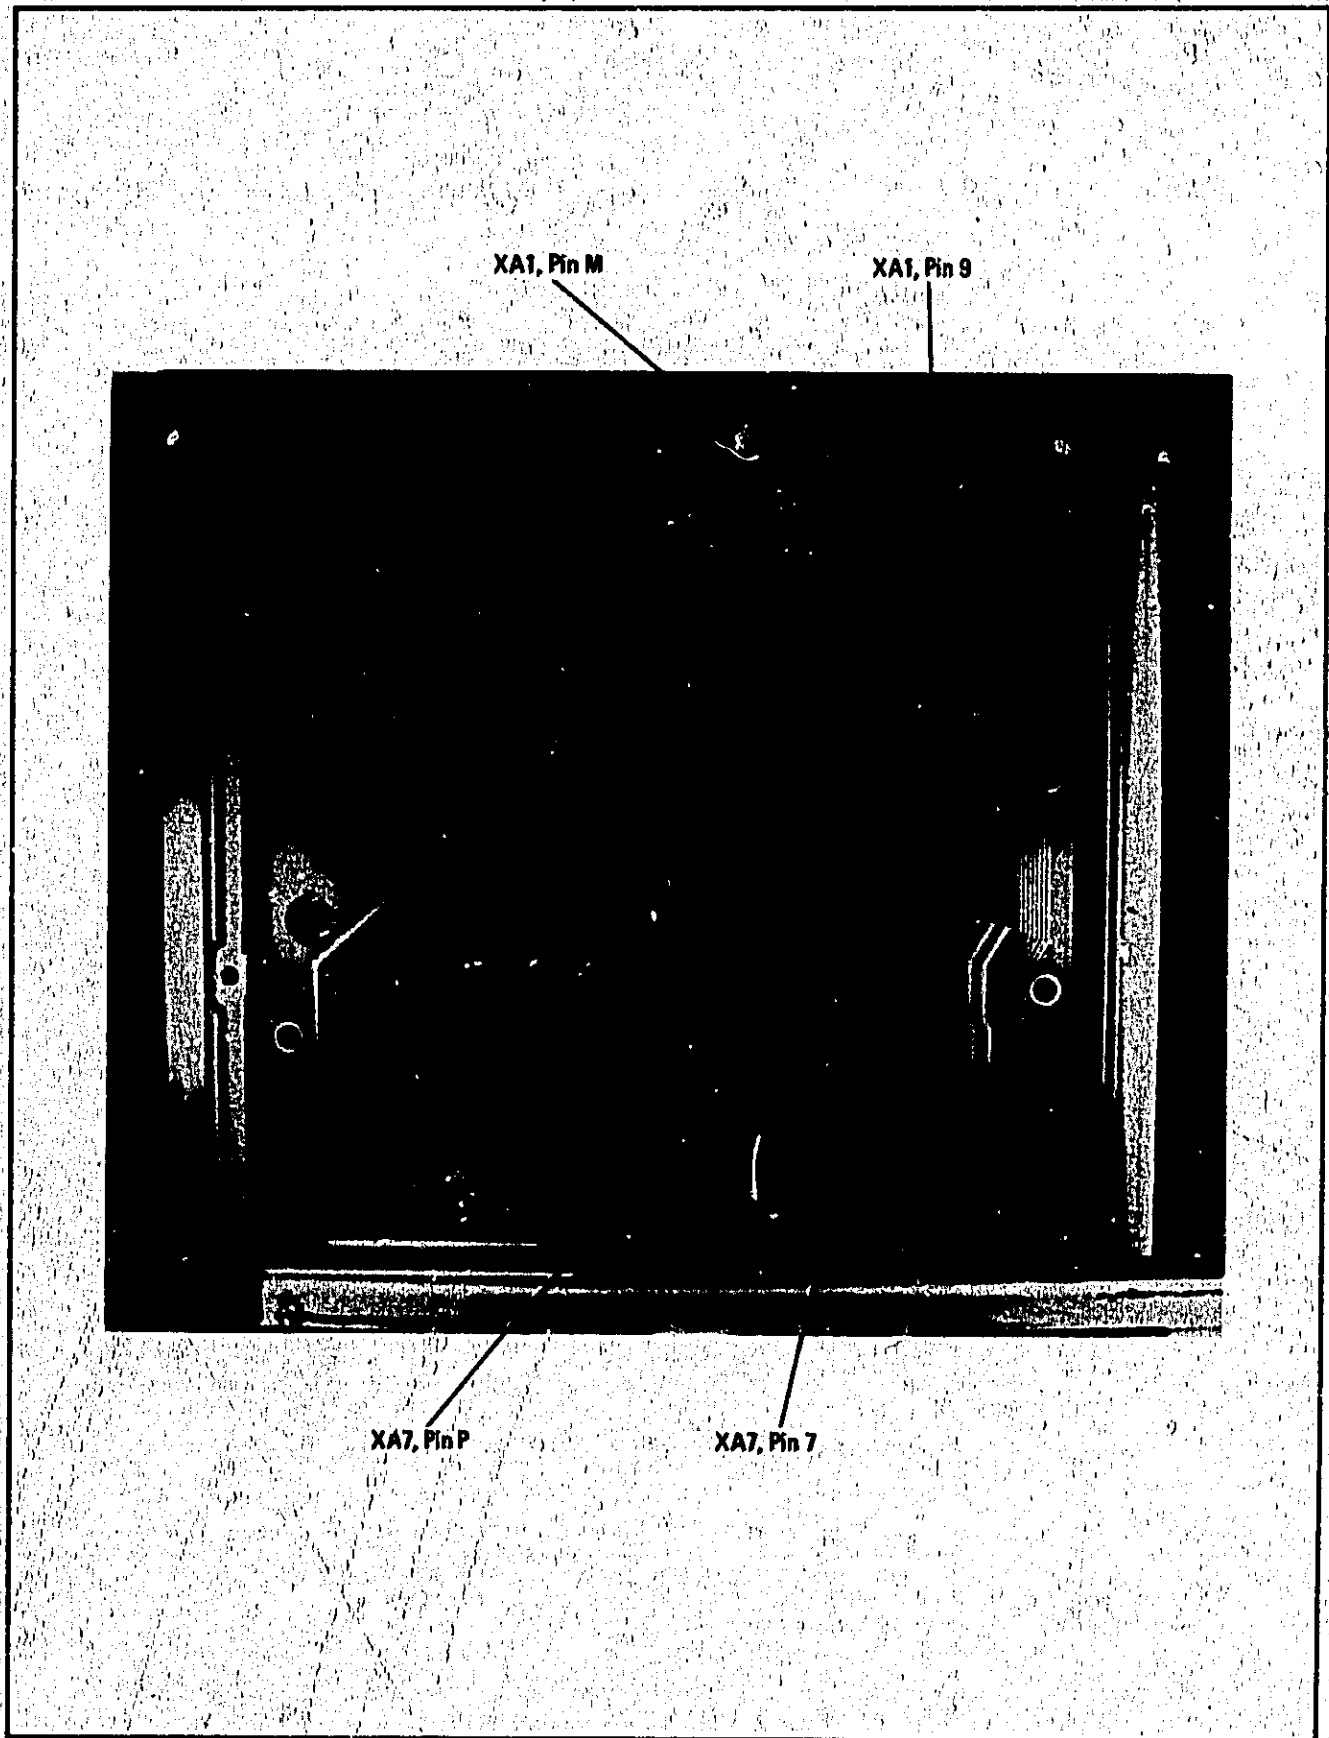

Figure 2. Master Board After Modification
3. Install one of the brown wires from the Modification Kit between XA1, Pin 9 and XA7, Pin P. (See Figure 2 for proper mounting.)